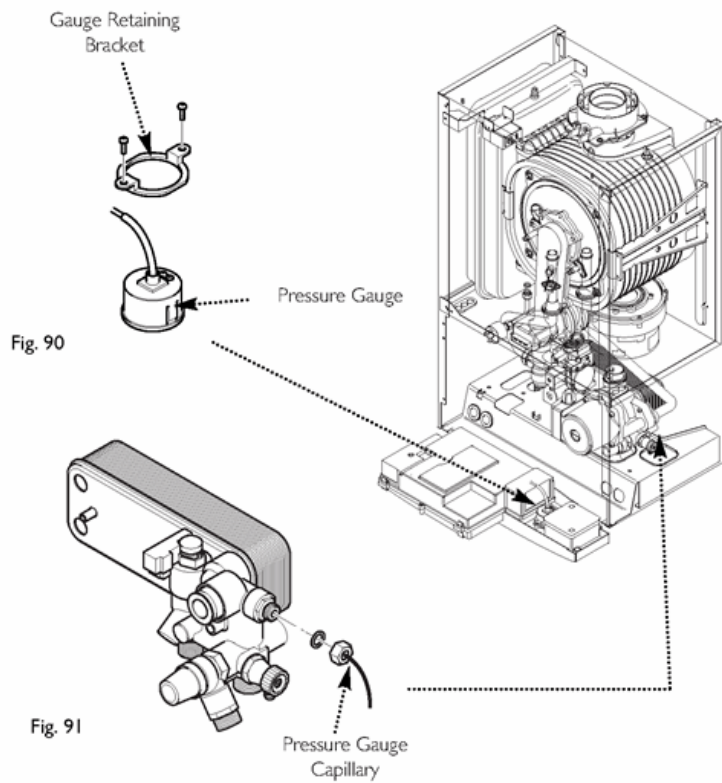

Fig. 90 & Fig. 91
14.17 Pressure Gauge (Figs. 90 & 91)